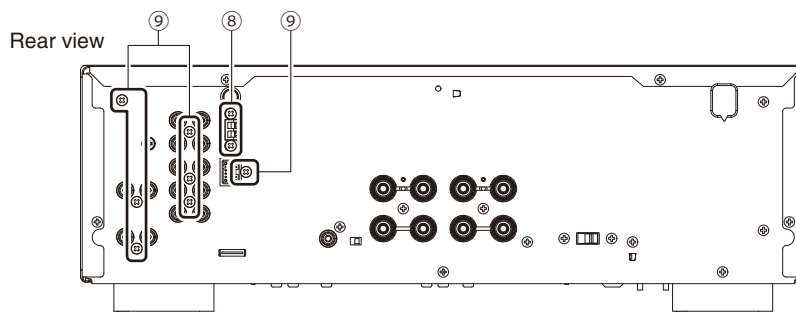

Fig. 3
- Remove 2 screws (⑧). (Fig. 3)
- Remove 7 screws (⑨). (Fig. 3)